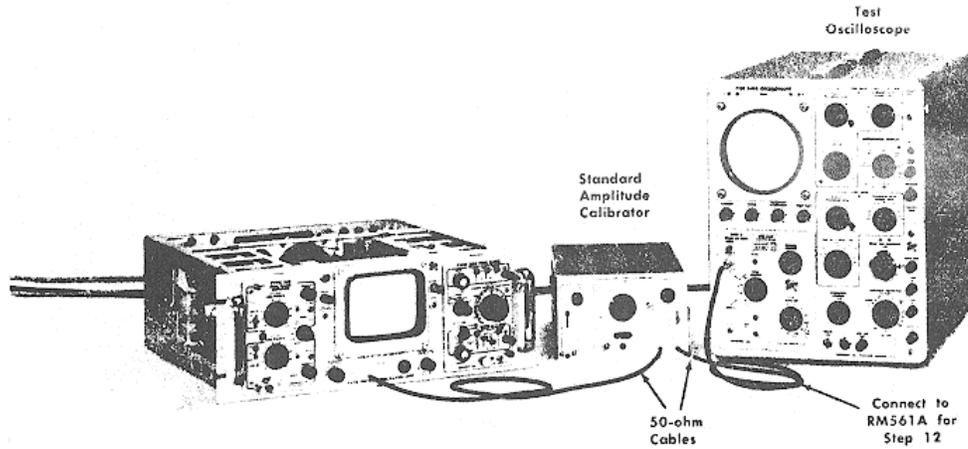

Fig. 6-13. Test equipment setup for geometry adjustment and CALIBRATOR check.
- a. Test equipment setup is shown in Fig. 6-13.
a. Test equipment setup is shown in Fig. 6-13.